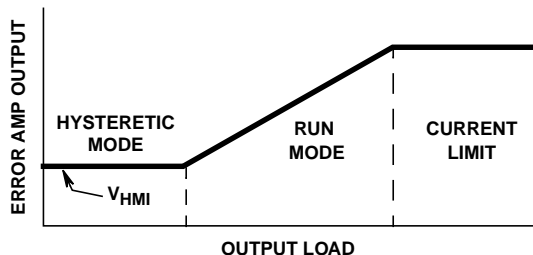

FIGURE 6. OPERATING MODES WITH THE ERROR AMPLIFIER CLAMPS
Limiting the error amplifier output voltage range provides both current-limit protection and a mechanism for setting the load current boundary between the Run and Hysteretic modes. Figure 6 shows the modes of operation as a function of the error amplifier output and load current. The error amplifier output voltage tracks the inductor current. The upper error amplifier clamp limits the peak inductor current which reduces the pulse-width (or duty factor). This reduces the output voltage with a constant current characteristic. The lower error amplifier limit sets the minimum inductor current. For load current demand below the minimum inductor current, the excess current adds charge to the output capacitor and the output voltage increases. The voltage on the feedback (FB) pin also increases and the converter operates in Hysteretic mode. The lower error amplifier limit is the voltage on the HMI (Hysteretic Mode Current) pin. The HMI level ( $V_{HMI}$ ) sets the Run-to-Hysteretic mode load current boundary.